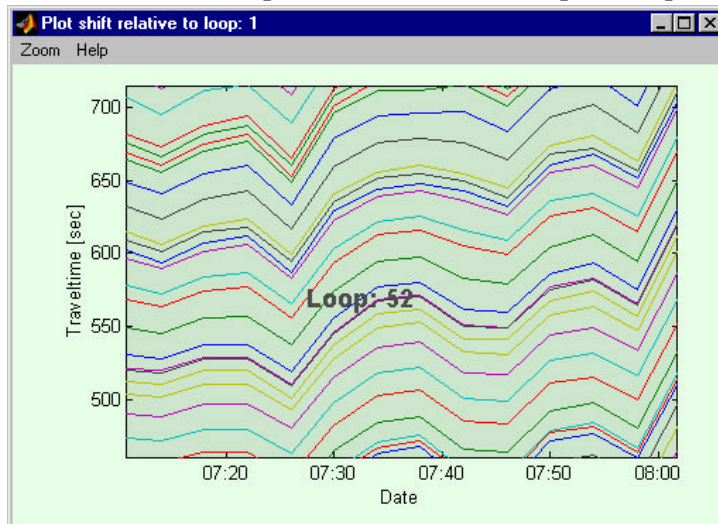

Figure 10: *Show the computed travel times*
- ◆ Click on “Show shifts” from the “View data” menu to show a plot of the travel time to each loop detector as a function of departure (or arrival) at the pivot loop (Figure 10).